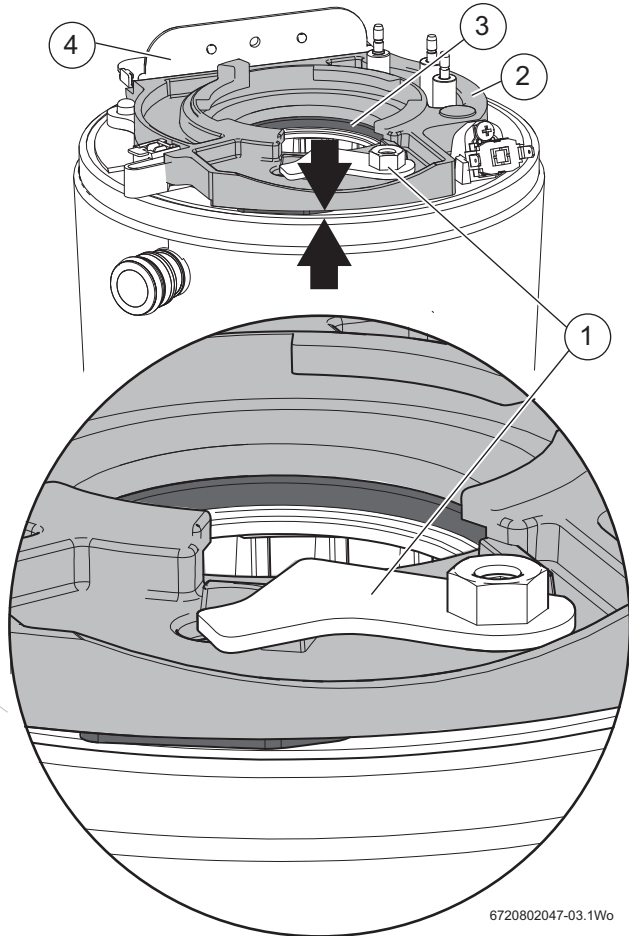

Fig. 102 Initial location of the clamping plate
- Ensure that the retaining plate [1] is in the position shown in figure 102
- ▶ Initially there will be a gap between the clamping plate and the top of the heat exchanger, refer to figure 102